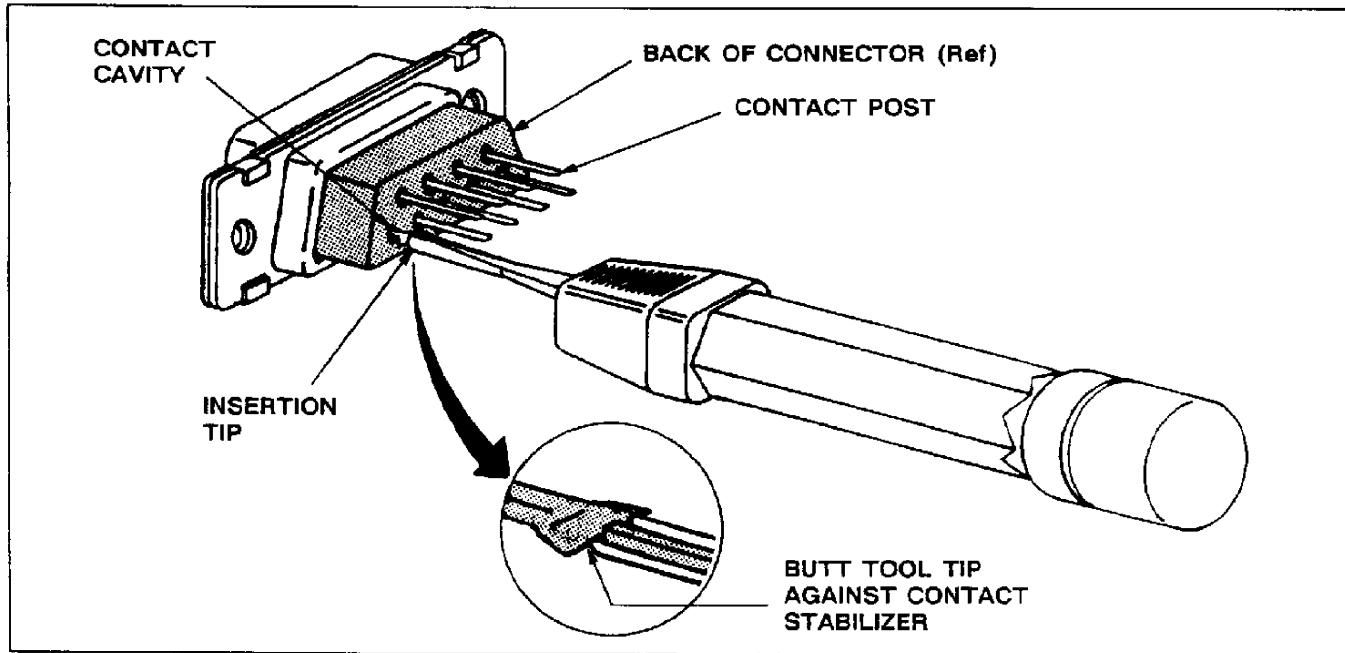

Fig. 5
#### C. Inserting A Posted Contact (Figure 5)
2. Position the tip over the contact post. Move the tool along the post until the tip butts against the contact stabilizer. Align the tip on the stabilizer as shown in Figure 5.